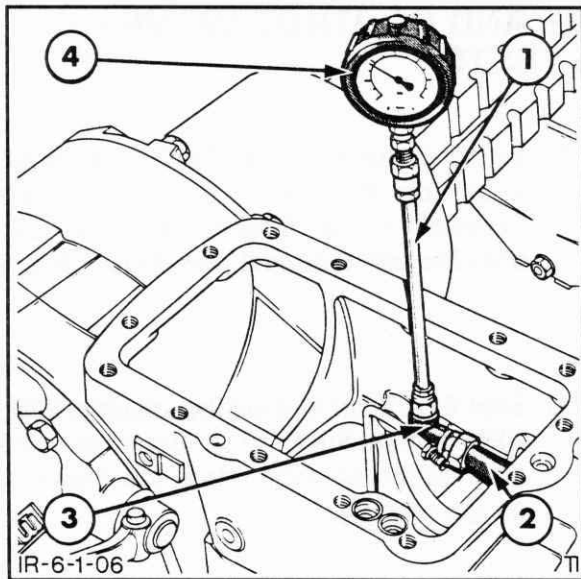

Figure 6-7
2. Disconnect the control valve to clutch support housing tube from the control valve, Figure 6-7.
3. Install Adaptor Tool #FT4097 or 1221, tube Tool #FT4100-1 or 1552 and the Pressure gauge, Tool #FT4100 or 0074 onto the control valve, Figure 6-7.
2. Prior to installing the rear axle top cover, pressure test the valve as previously described. Refer to Figure 6-7.